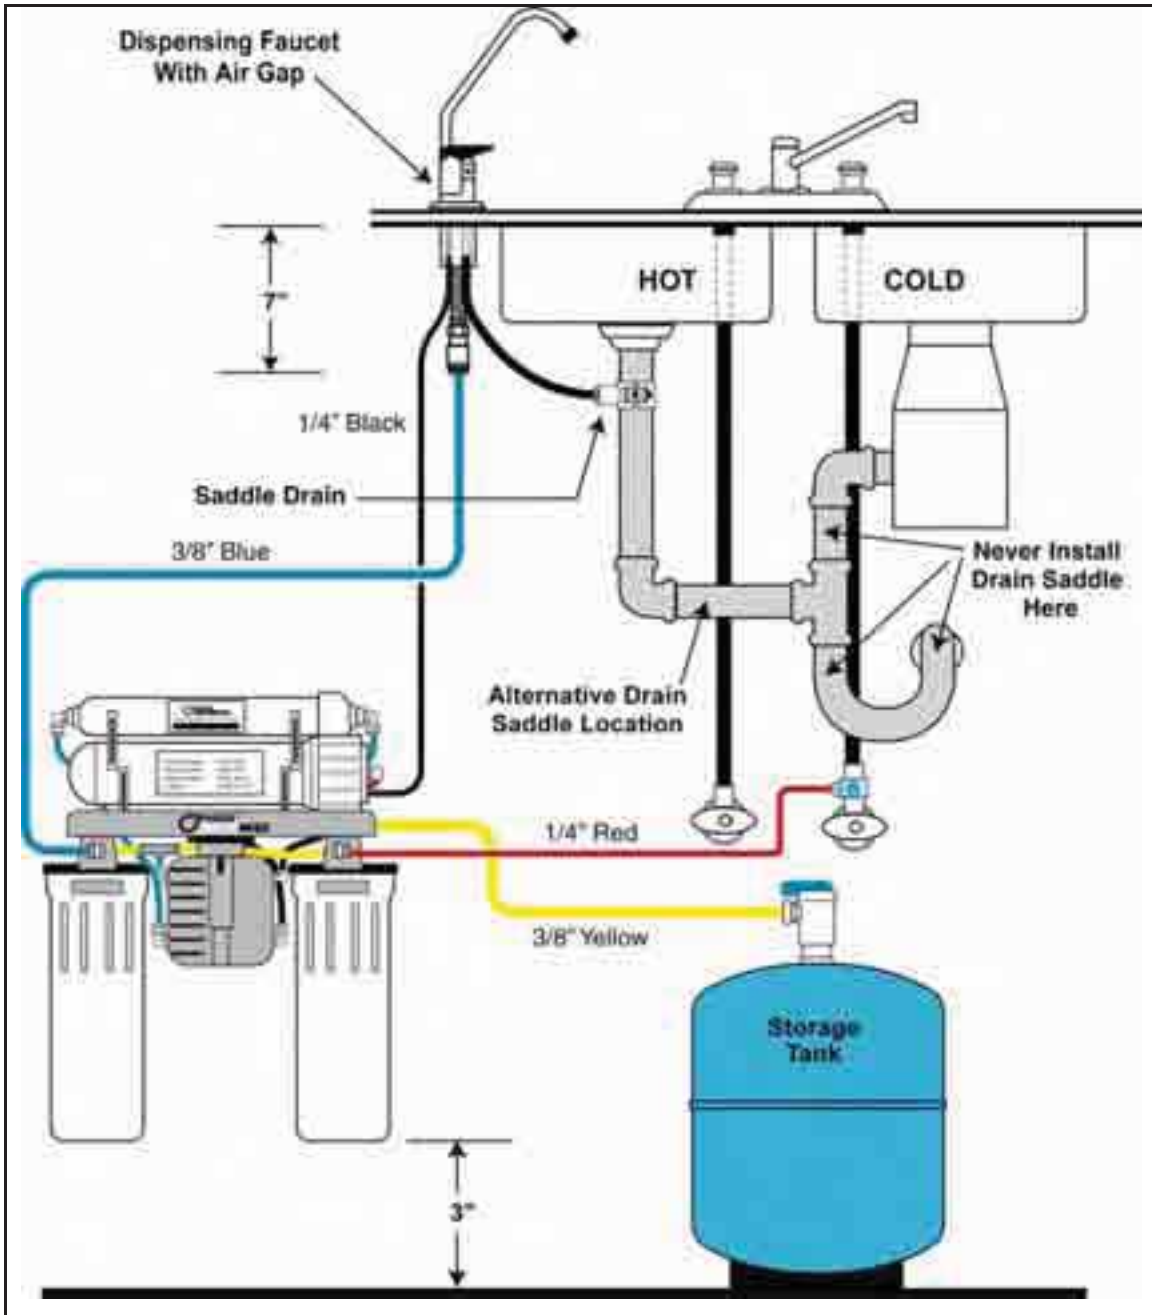

Figure 2: Installation Diagram
Study the overall installation diagram (See Figure 2) before proceeding, to familiarize yourself with the general layout of the appliance.
- B. Using the diagram in Figure 2, from under the sink, feed the pre-connected 1/4-inch black tube and the pre-connected 3/8-inch blue tube from the RO assembly through the hole in the sink. Remove the red locking clip from the spigot adapter, slip the blue tube into the spigot adapter, and replace the red locking clip. Slip the 1/4-inch black tube onto the small hose barb on the base of the spigot.
- D. Cut the 3/8-inch black tube to desired length and connect to the drain saddle with the provided clip. (See Figure 2)
Mount the RO Appliance on the cabinet wall using the screws supplied. Leave 3 inches below the bottom of the filter housing for clearance when changing filters (See Figure 2).